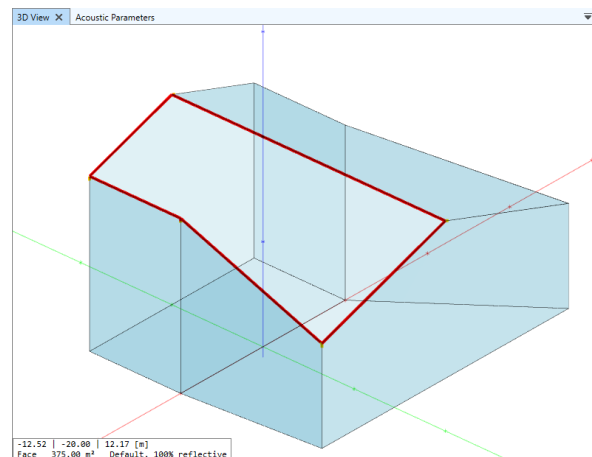

Figure 7.23 Hole outlines mode outlines missing or inverted faces in red.
2. Check for holes in the surface of the room using the **PRESENTATION > GEOMETRY ANALYSIS > HOLE OUTLINES** mode (Figure 7.23). Missing parts or inverted faces will be indicated with a red border.